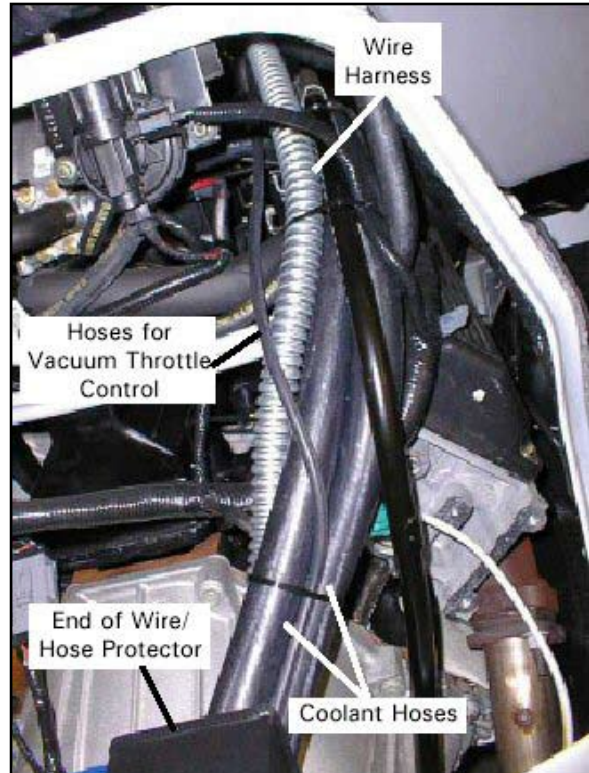

Figure 23. Install Wire Harness
1. The wire harness will follow the same path as the heat exchanger coolant hoses. Feed the molded plug on harness from the front of the van, over top passenger side of motor. Feed the harness until the two white ground wires with ring terminals are in line with the ground lug located on the power pack (passenger side). Attach wires to ground lug. See Figure 23.